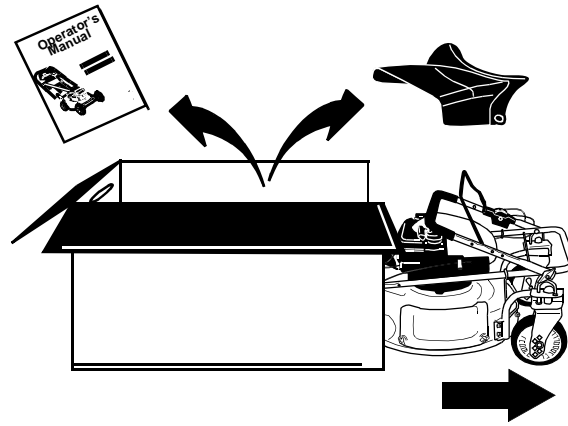

FIGURE 2
- Remove loose parts if included with unit (i.e., Operator's manual, etc.). See Figure 2.
- Roll or slide unit out of carton. Check carton thoroughly for loose parts. See Figure 2.